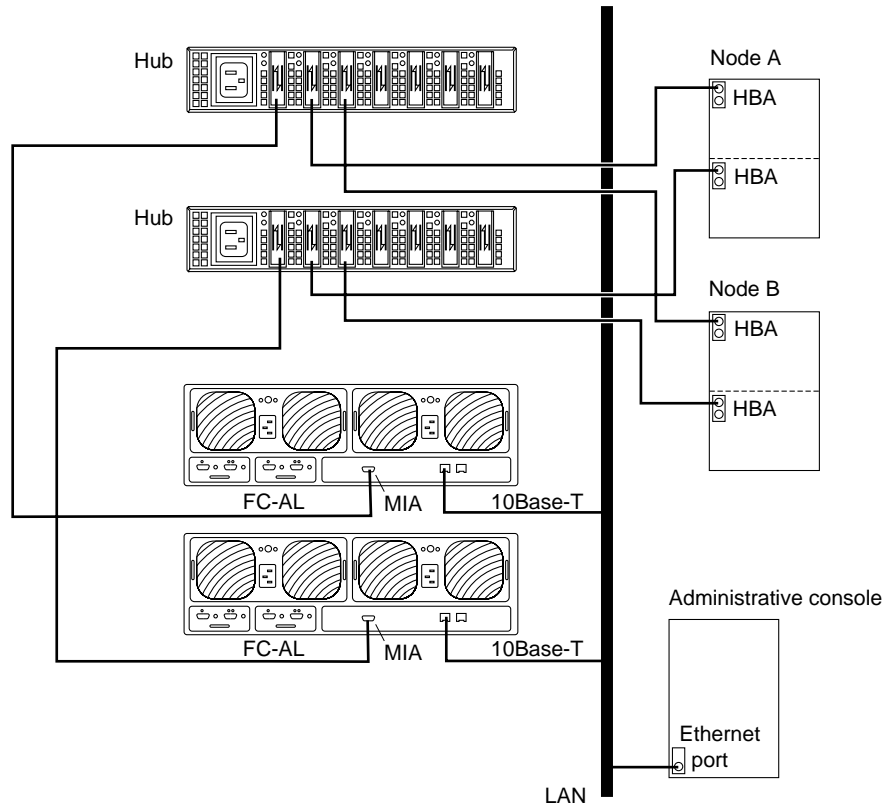

FIGURE B-1 Cabling a Sun StorEdge T3 disk tray in a single-tray configuration
4. Cable and power on the Sun StorEdge T3 disk trays as shown in FIGURE B-1.